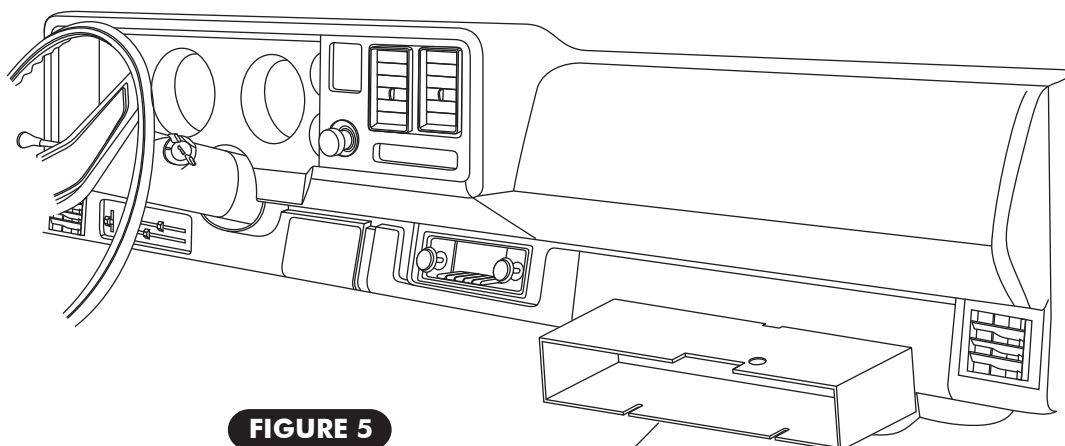

FIGURE 5
- ☐ GLOVE BOX (DISCARD, RETAIN SCREWS), (SEE FIGURE 5, BELOW).